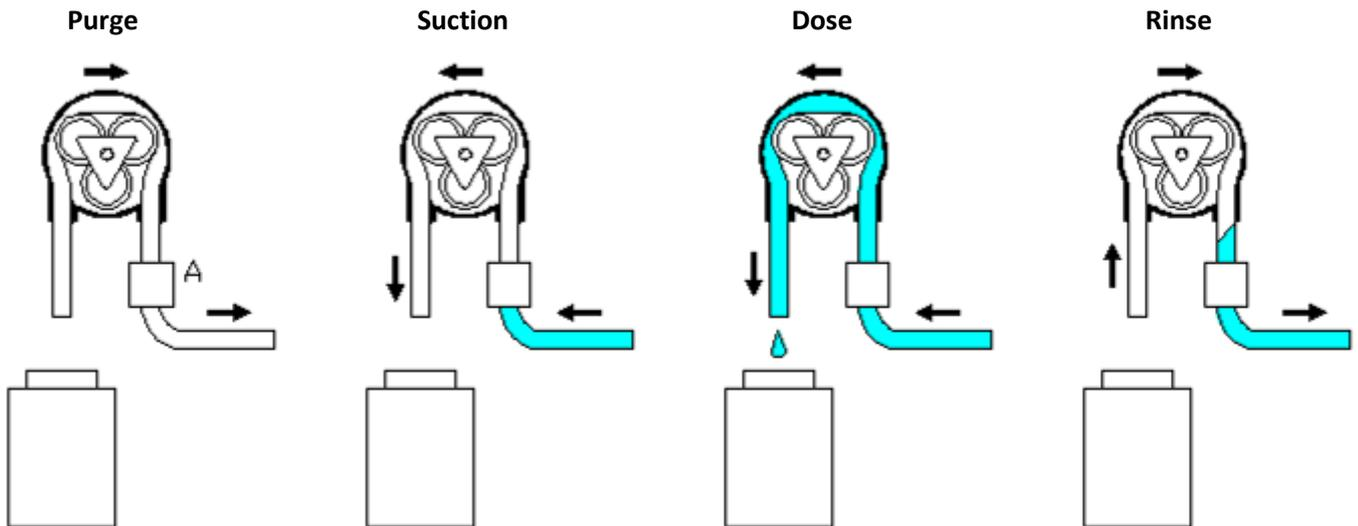

Fig. 9.3a
- 2) **Suction:** The samplers starts creating a vacuum on the inlet until medium reaches the medium detector (A in fig 9.3a). When the sampler doesn't detect the medium within a set time (parameter Suction, default 30 seconds), an error sample is counted.